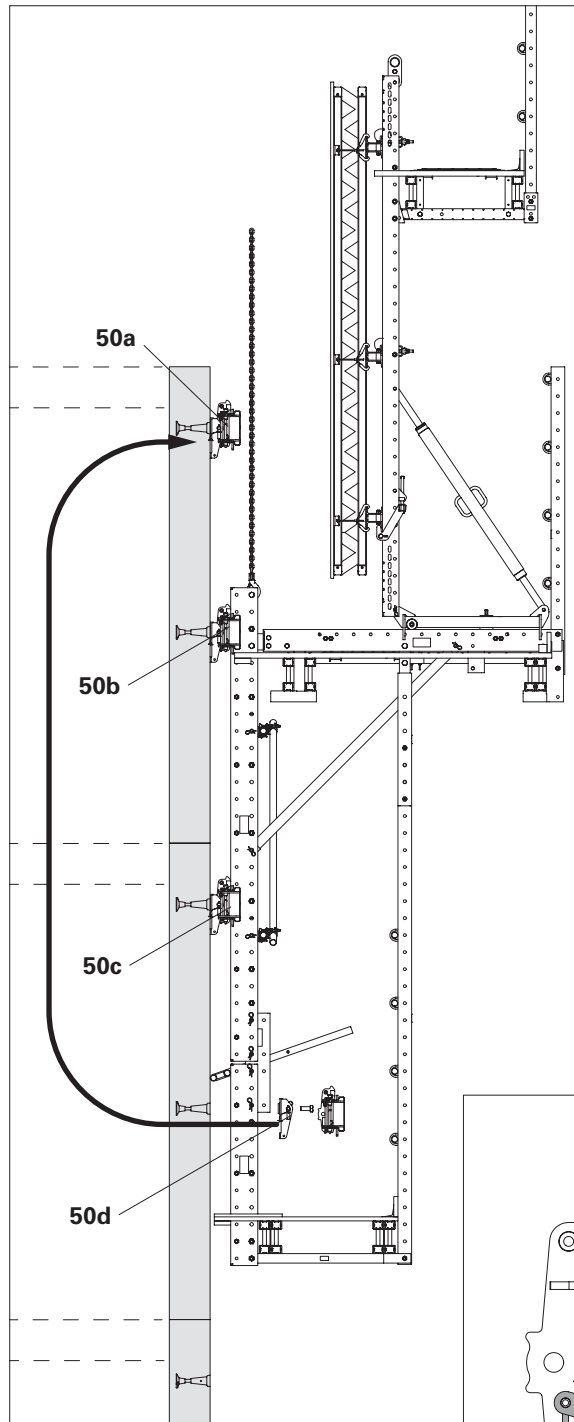

Fig. D7.02
1. Slowly lift the climbing unit into the next climbing shoes (**50b**) with the crane until the climbing pawls (**50.1**) of the climbing shoes (**50b**) audibly engage with the earmarked spacers (**3**). (Fig. D7.02 + D7.02a)